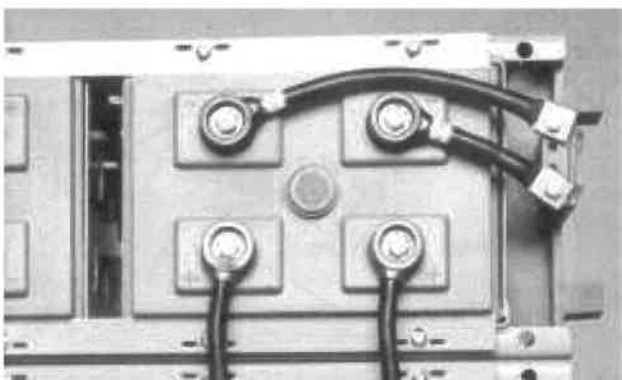

Figure 8: Take-off connectors between cell terminal and main terminal plate
- d) fit the take-off connector(s) between the cell terminal(s) and the main terminal plate, see Fig 8.